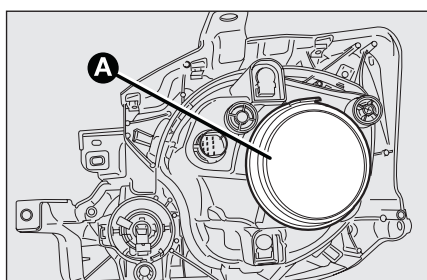

fig. 11
- ☐ remove the cover **A**-fig. 11;